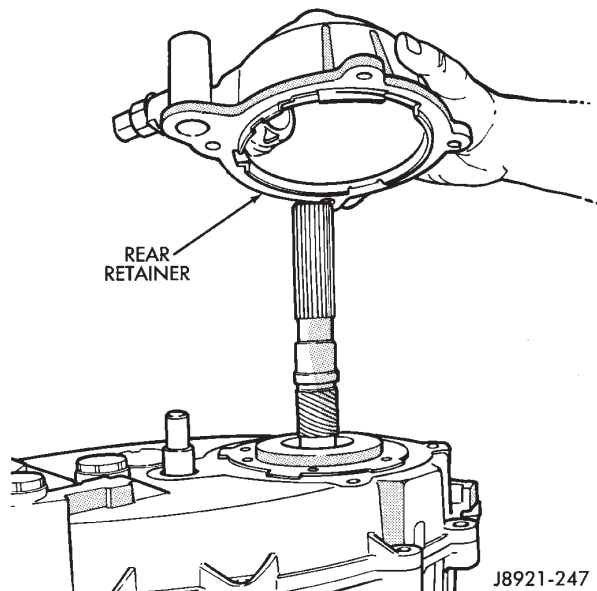
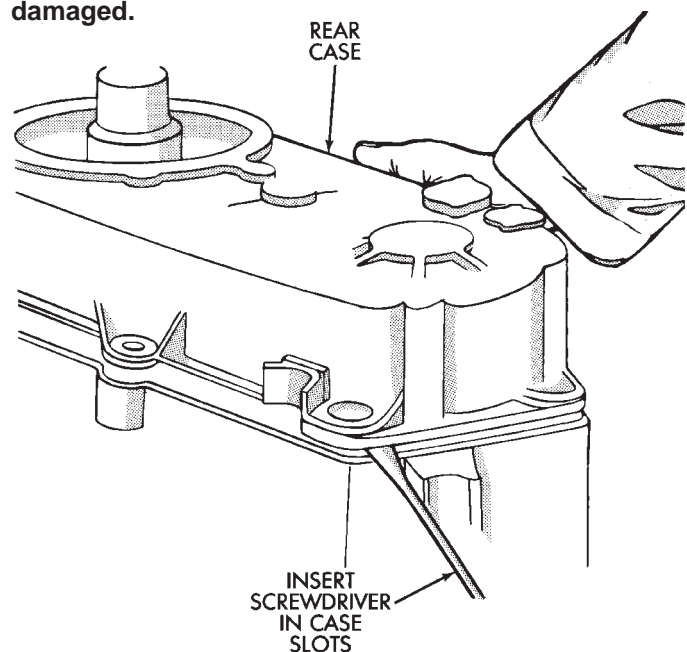

Fig. 4 Removing Rear Retainer
Fig. 5 Loosening Rear Case
(9) Lift rear retainer up and off case and mainshaft (Fig. 4).
(10) Remove bolts attaching rear case to front case. Retain bolts and the washers.
(11) Loosen rear case with two screwdrivers (Fig. 5). Insert screwdrivers into slots cast in case ends. Then gently pry upward to break sealer bead.